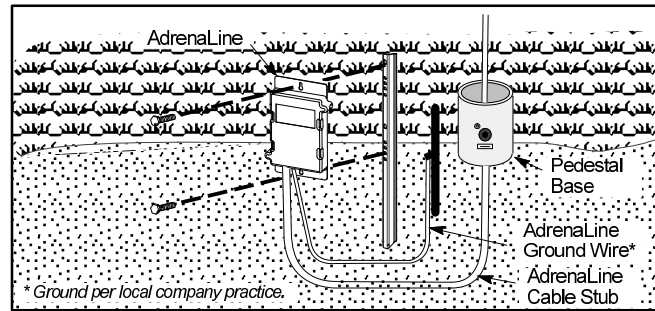
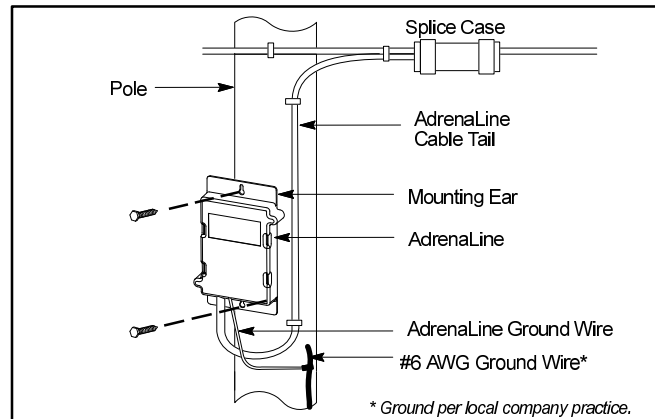

Figure 2. Above-Grade Installation of CTA-01E, CTA-01L or CRE-01E with Buried Cable and Above-Grade Pedestal
Figure 3. Pole Mounting, CTA-01E, CTA-01L & CRE-01E models
4. □	Mount the AdrenaLine unit. Gather all materials, follow all safety precautions and local codes, prepare the installation site, and mount the unit. See Figure 2 and Figure 3.